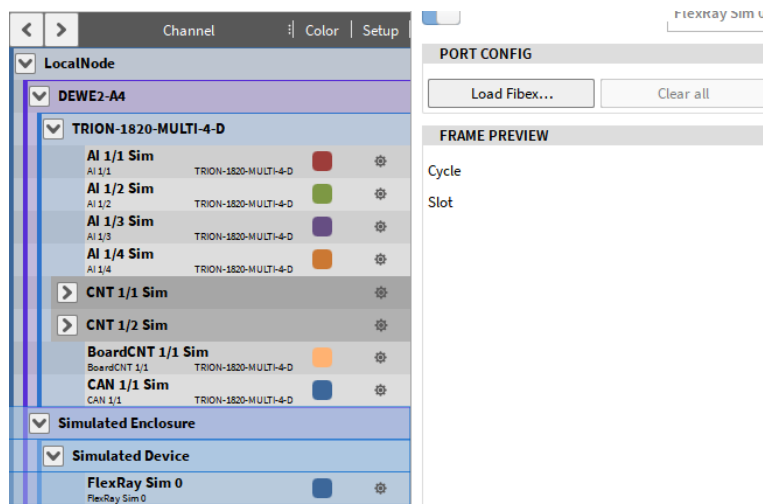

Fig. 4.59: FlexRay channel settings
- Click on the Gear button to open the Channel settings (marked blue in Fig. 4.58). Click on the *Load Fibex...* button to select the proper fibex-file (see Fig. 4.59).
- To select additional channels later on, just reload the fibex-file and pick more channel In the chan- nel picker dialog. The *Clear all* (Fig. 4.59) buttons deletes the current channel selection.